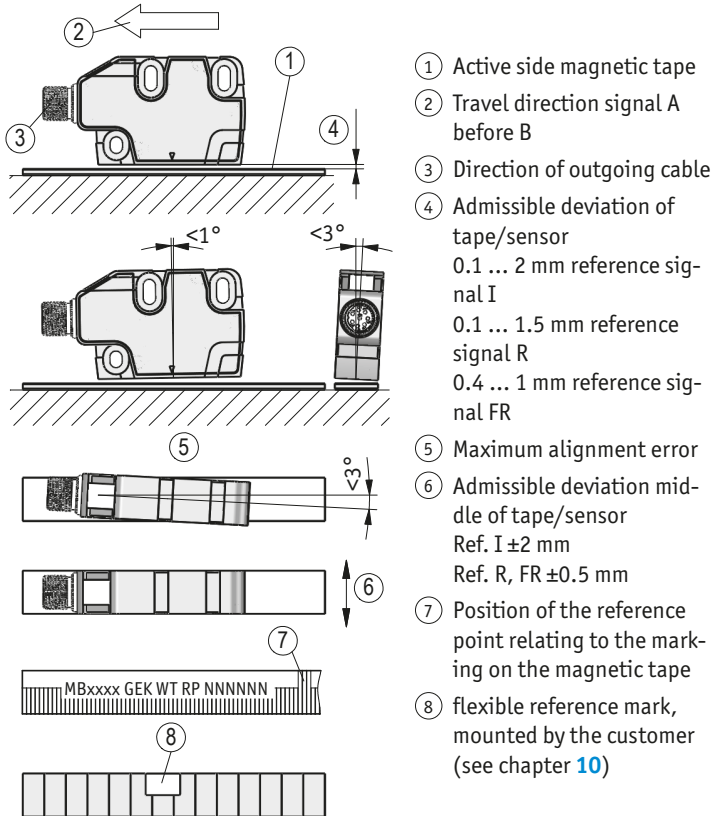
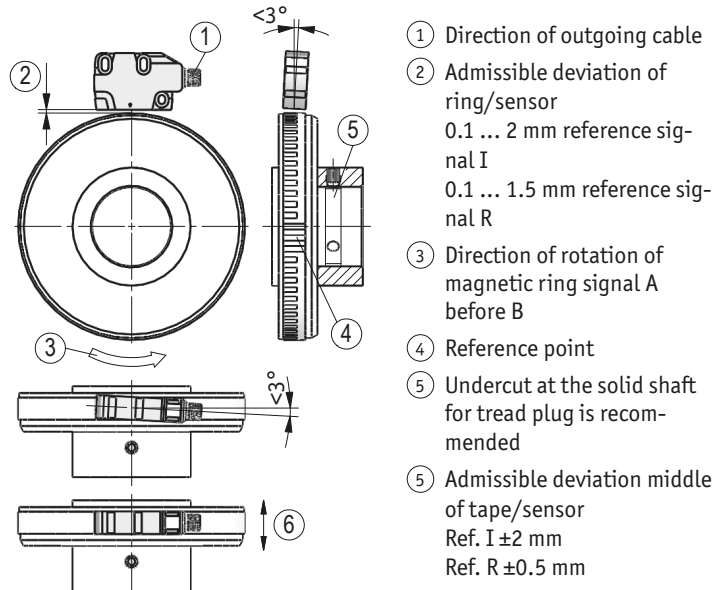

Fig. 6: Definition of the counting direction with magnetic tape and assemblage sensor / magnetic tape, gap measure, tolerances
Fig. 8: Definition of the counting direction with magnetic ring and assemblage sensor/magnetic ring, gap measure, tolerances
► Take care that the magnetic sensor is aligned correctly in order to ensure optimum sensing (see Fig. 6).
► Take care that the magnetic ring is aligned correctly in order to ensure optimum sensing (see Fig. 8).
4. Provide for a relief groove in the solid shaft (see Fig. 8).
- The distance tolerances were not observed over the whole measuring length (see Fig. 6 and Fig. 8).
- The magnetic sensor has been mounted with the active side turned away from the band (see Fig. 6 and Fig. 8).
- Magnetic sensor has not been aligned according to Fig. 6 and Fig. 8.